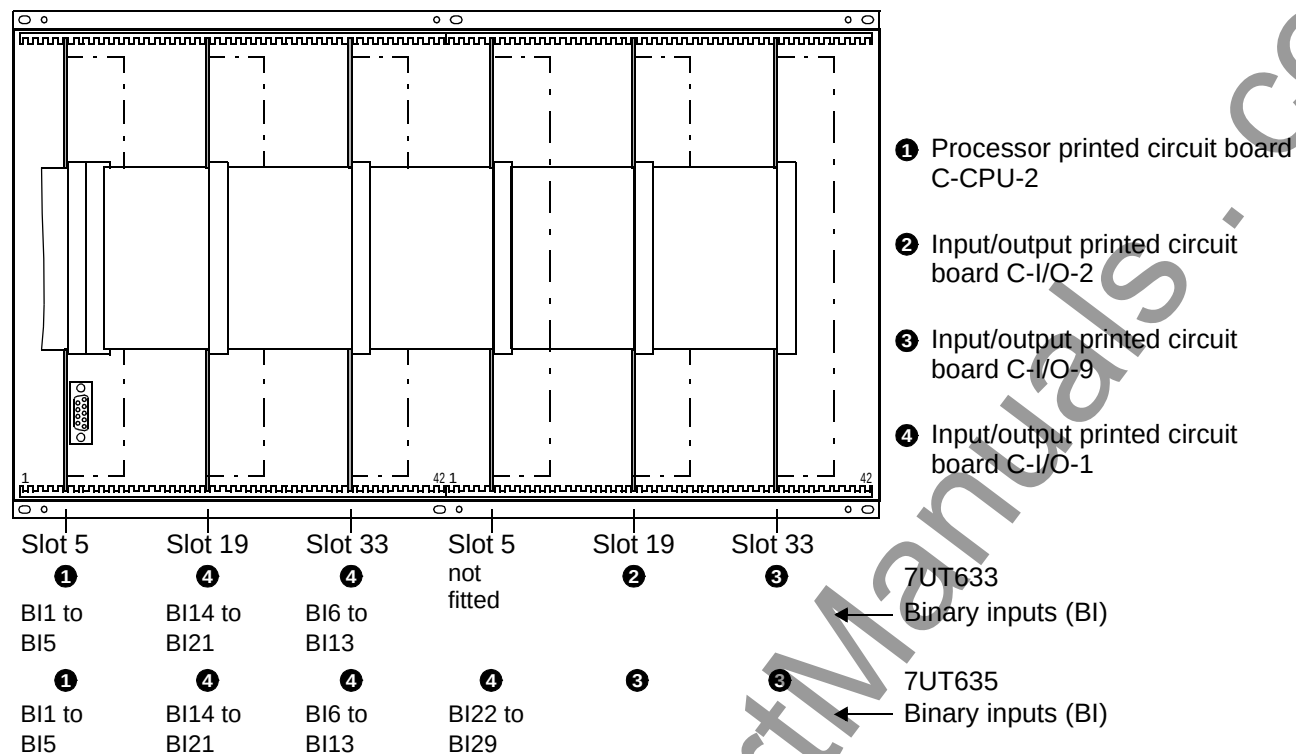

Figure 3-9 Front view of 7UT633 and 7UT635 (housing size $\frac{1}{1}$) after removal of the front cover (simplified and scaled down)
In 7UT633, this applies for the binary outputs BO9 and BO17 (Figure 3-9, slot 33 left and 19 left).
In 7UT635, this applies for the binary outputs BO1, BO9, and BO17 (Figure 3-9, slot 5 right, 33 left, and 19 left).
at 7UT633 board ② in Figure 3-9, slot 19 right.